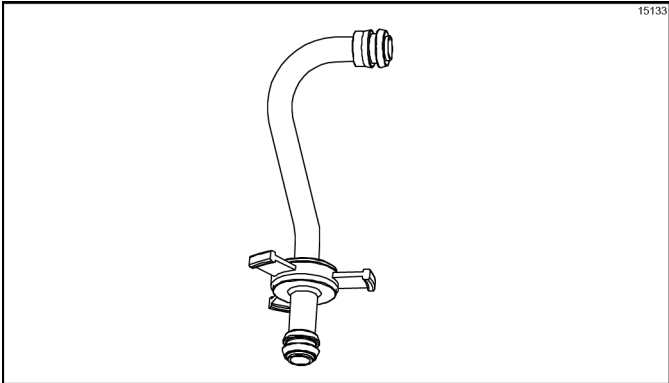

Figure 6-39
10. Assemble the feed tube assembly. Slide the check ring into the groove of the feed tube. (See Figure 6-39.)